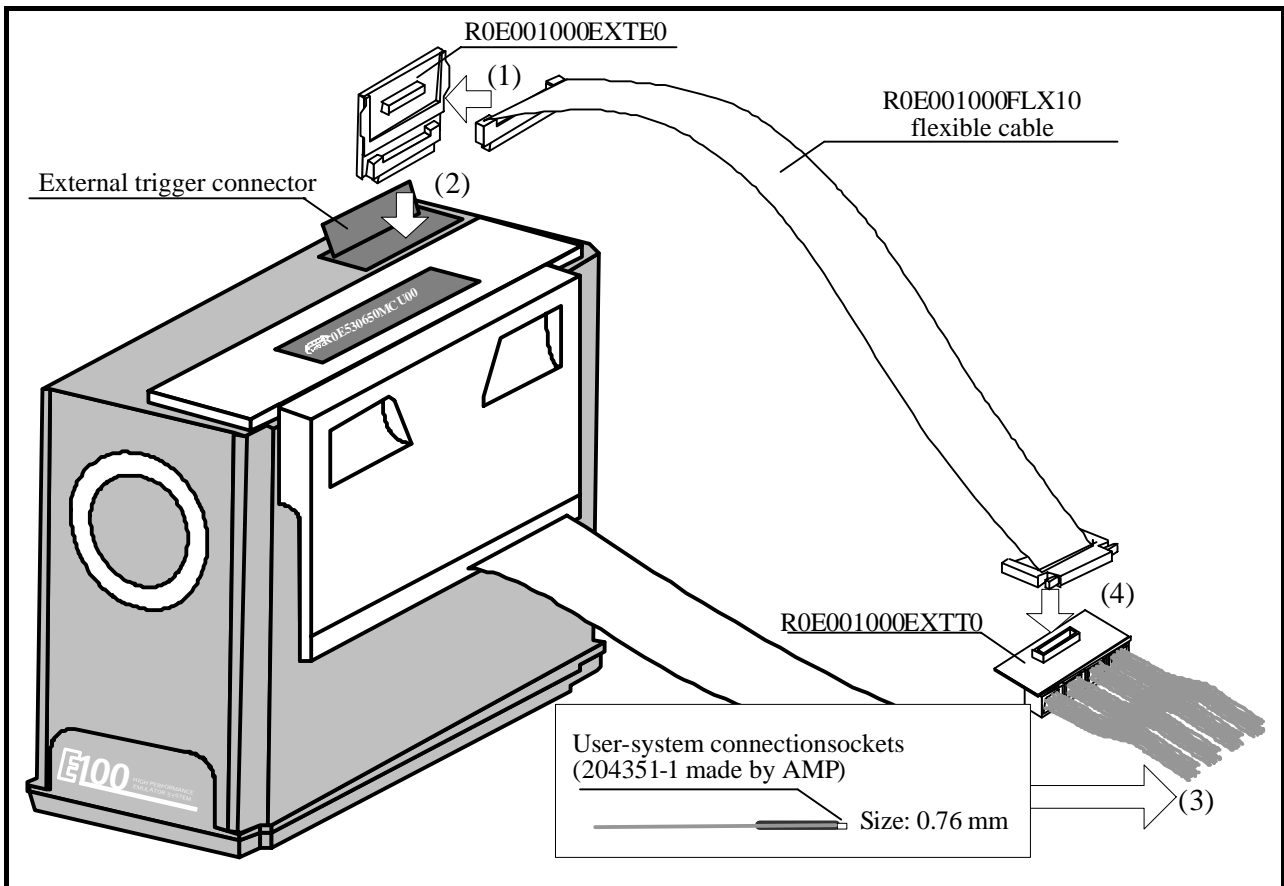

Figure 2 Usage of the R0E001000EXT00
3. Usage (See Figure 2)
The usage of the external trigger cable R0E001000EXT00 is shown in Figure 2.